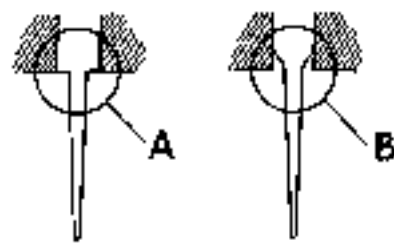

Fig. 9. Showing the two forms of tapered needle.
tapered needle (H), see also Fig. 9, which is secured to the piston (J). The head of the piston is flanged and grooved to form a suction disc (I).